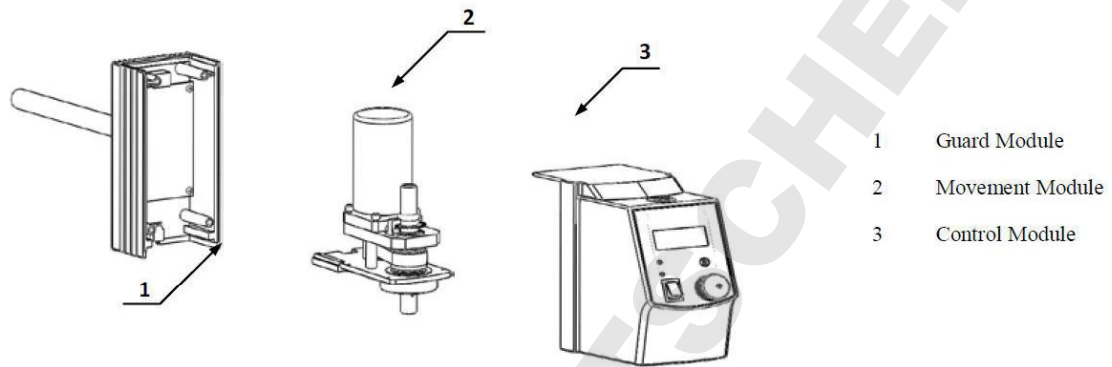
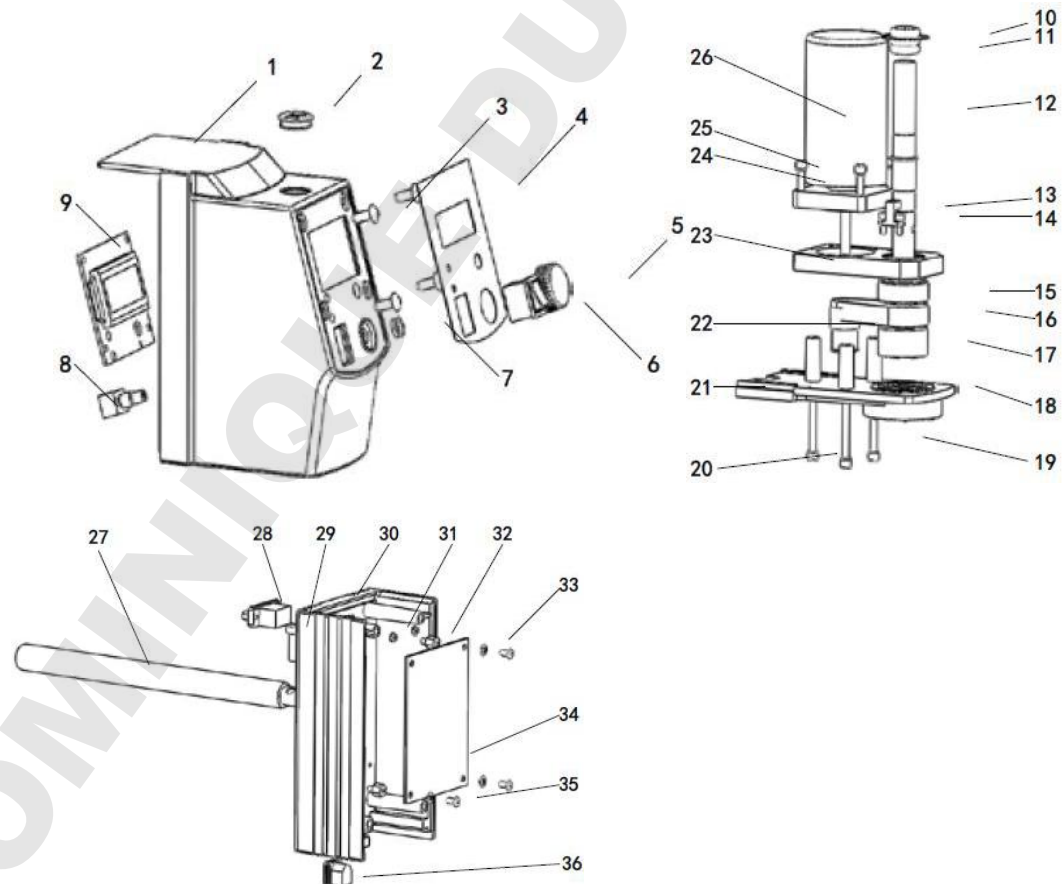

FIG.4
FIG.5
Fig. 4 illustrates the structural components of OS40 (20)-Pro, and Fig. 5 is the Exploded View of OS40 (20)-Pro. Guard module includes front guard, Membrane, knob, power switch, rubber cap, LCD PCB, knob switch, and PCB clamp and so on. Control modules are consisted of rear guard, Driven Board, power outlet, RS232 interface and bar and so on. The movement module is composed of motor, coded disc, shaft, motor pulley, bearing pulley, bearing, belt, photoelectric switch, lower support plate and so on.